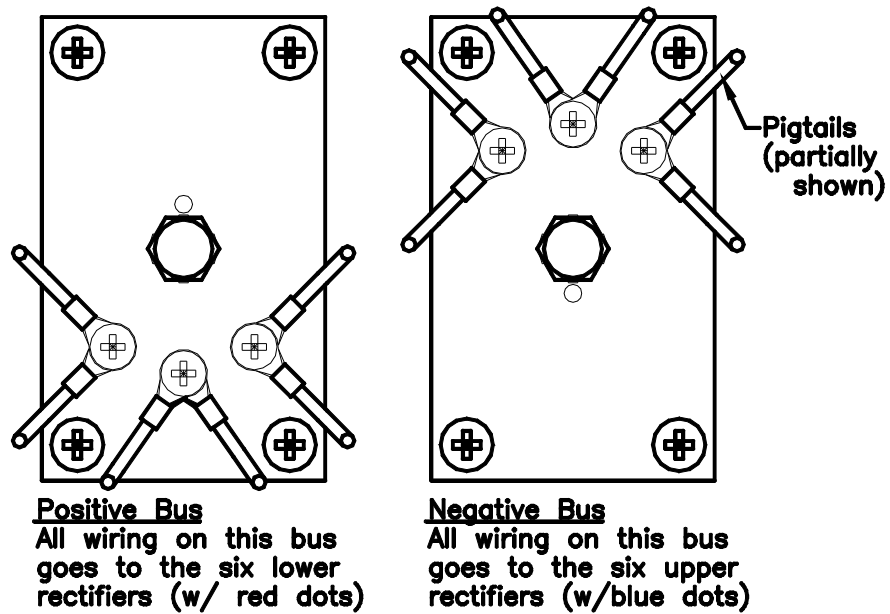
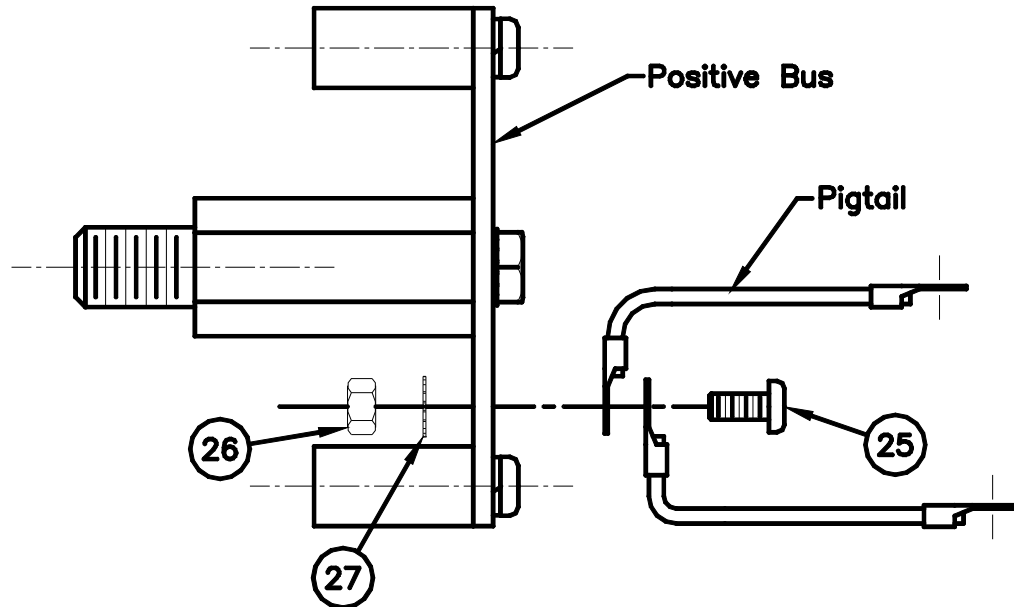

FIGURE 8.2
FIGURE 8.3
- b) Connect the other end of the Pigtails to the appropriate Output Bus (negative or positive) using six **Item 25** (#8-32 x 3/8" pan head machine screw), six **Item 26** (#8-32 hex nut) and six **Item 27** (#8 external tooth lock washer) as shown in Figure 8.3.
- e) Two Pigtails attach to each screw, as shown in Figure 8.3. Arrange the connections as shown in Figure 8.2.